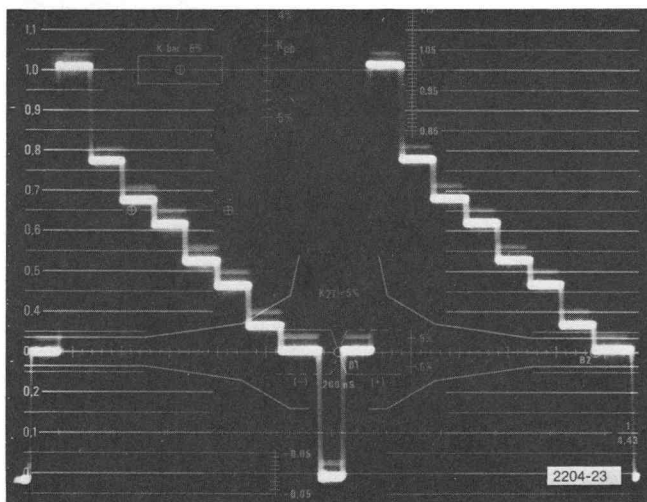

Fig. 1-23. 2 line display with Subcarrier off, luminance only.
14. AMPLITUDE: Set the 143 AMPLITUDE switch to OFF and observe that subcarrier is deleted, while the luminance steps remain. See Fig. 1-23.
Set the AMPLITUDE switch to VAR and rotate the associated control fully counterclockwise. Note that the subcarrier is deleted. See Fig. 1-23.